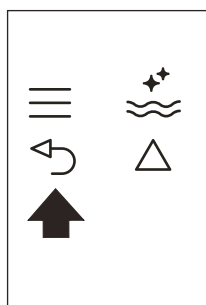

Fig. 25
- ▶ Press the icon  (B6) (Fig. 25) twice to exit the menu.